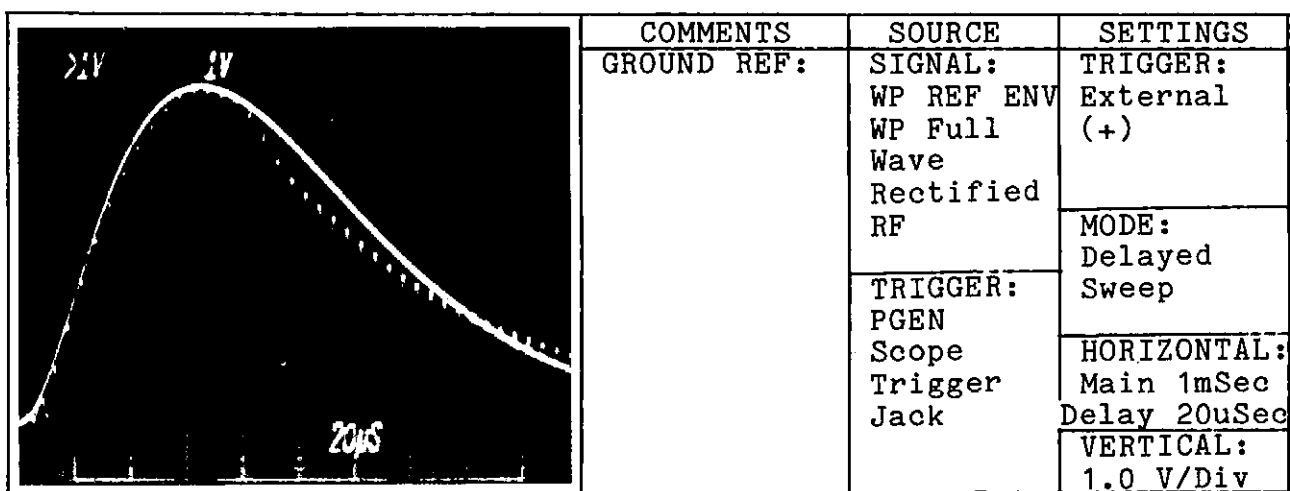

Figure 2.38. RF Waveform and Reference Envelope without Tail Drive
c. If the transmitted tail does not match the level of the Reference Envelope at 80 usec, adjust the 8th/16th thumbwheel switch to achieve the closest match. (see figures 2.38 and 2.39)